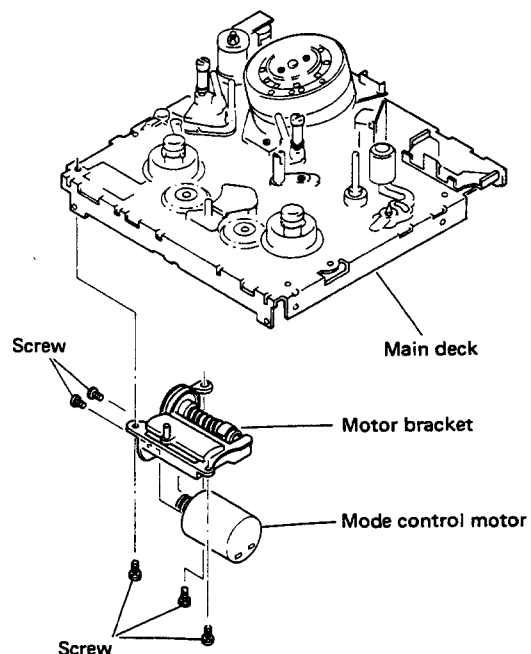

Fig. 2-10 Mode control motor replacement
2. Take out screws (Fig. 2-10) and remove the motor bracket.